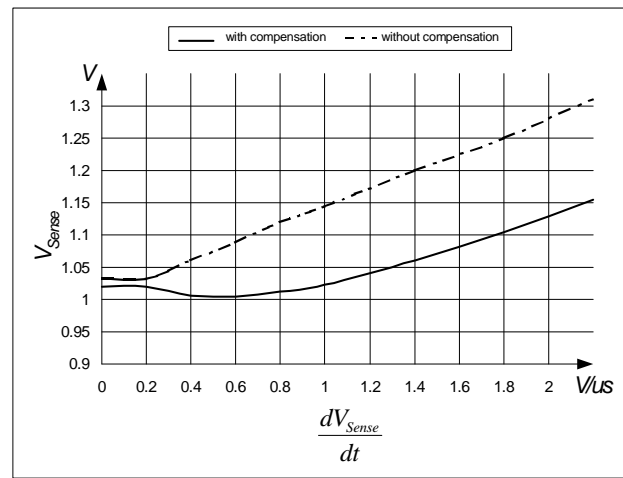

Figure 19 Overcurrent Shutdown
E.g. $I_{peak} = 0.5\text{A}$ with $R_{Sense} = 2$. Without propagation delay compensation the current sense threshold is set to a static voltage level $V_{csth} = 1\text{V}$. A current ramp of $dI/dt = 0.4\text{A}/\mu\text{s}$, that means $dV_{Sense}/dt = 0.8\text{V}/\mu\text{s}$, and a propagation delay time of i.e. $t_{Propagation Delay} = 180\text{ns}$ leads then to a I_{peak} overshoot of 14.4%. By means of propagation delay compensation the overshoot is only about 2% (see Figure 19).